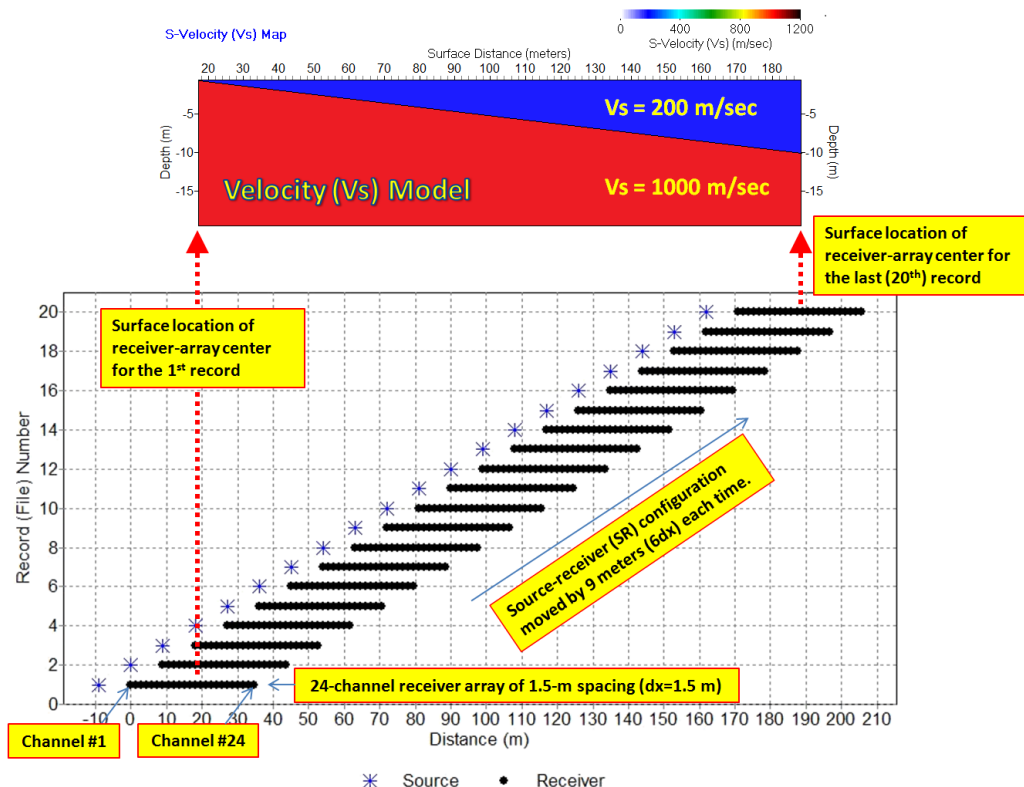

Figure 1. Velocity ( $V_s$ ) model used produce the sample data set ("DippingBedrock.dat") and its source/receiver (SR) configuration used during the modeling.
This sample data set consists of twenty (20) field records of 24-channel acquisition (Figure 1) with a 1-ms sampling interval ( $dt$ ) and 1024 samples of recording (i.e., recording time,  $T$ , is 1.024 sec). Each of these records is modeled with a 2-layer earth model (overburden and bedrock) that increases its bedrock depth systematically so that the resultant effect is a "dipping" bedrock (Figure 1). Shear-wave velocities of overburden and bedrock were arbitrarily set to 200 m/sec and 1000 m/sec, respectively. Corresponding Poisson's ratios were set to 0.45 and 0.33, respectively. A constant density of 2 gm/cc was used for both overburden and bedrock.
Relative locations of seismic source and receivers are encoded into the header of each channel's data set ("trace"). The critical parameters of receiver spacing (dx), source offset (X1), movement of source and/or receivers, distance within the survey line of source and receivers, station numbers, etc., are inserted into the proper headers. In reality, these parameters are usually set at the beginning of the survey. If that is the case, then PS will inform it at the beginning of the SR setup so that the user can visually examine the encoded information in a manner similar to the chart displayed in Figure 1. If the user confirms the displayed setup is correct, then SR setup is skipped. If the user finds the original field data set did not have proper information encoded, then this SR setup is crucial and cannot be skipped.